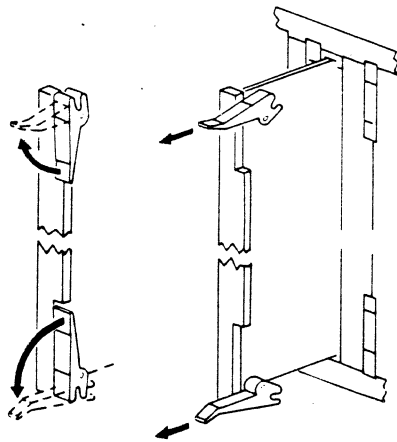

Figure 6-7. Removal of Logic Cards
- b. Grasp the card extractors (black tabs) (Figure 6-7) on each card and pivot them out until the card is free from its mating connector.